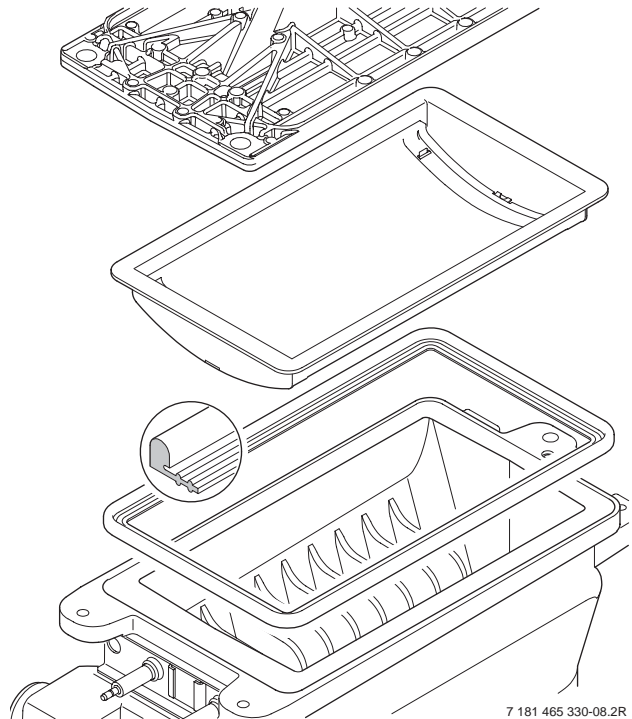

Fig. 42
- ▶ Remove burner and clean components. Do not use a wire brush. Refer to fig. 42.